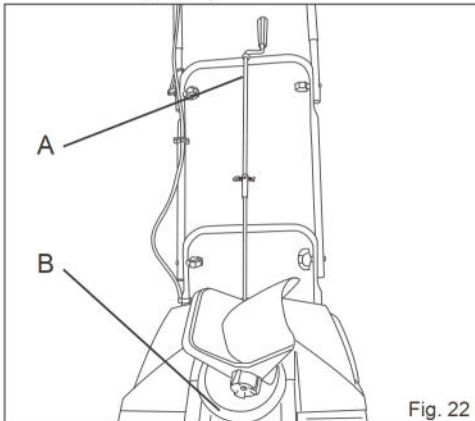
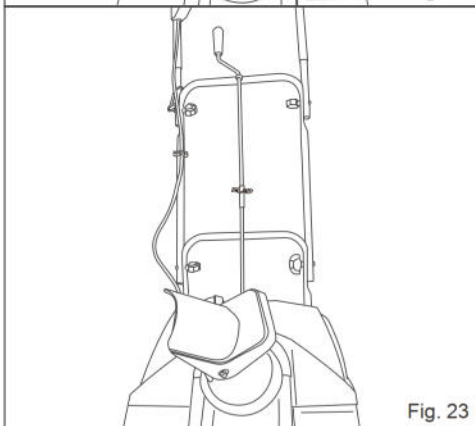

Fig. 22
Fig. 23
1. The discharge chute can be adjusted 180 degrees by rotating the chute crank. Rotate the chute control crank clockwise to move the discharge chute to the left (Fig. 22) and counter-clockwise to move the chute to the right (Fig. 23).
NOTE: A little lubricant, will provide a smoother operation of the chute (spray at points A and B as indicated in Fig. 22).